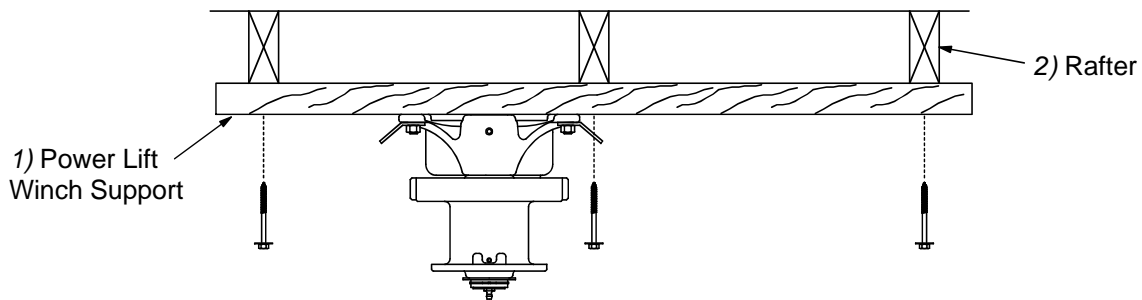

Figure 6. Mounting the Power Lift Winch and Support to the Rafters
2. Attach the Power Lift Winch Support (with the Power Winch secured) to the ceiling at the center of the feeder line. See **Figure 6**. The Power Lift Winch Support must be parallel to the feeder line and must span at least 3 rafters in a wood frame house and 2 rafters in a steel frame house.